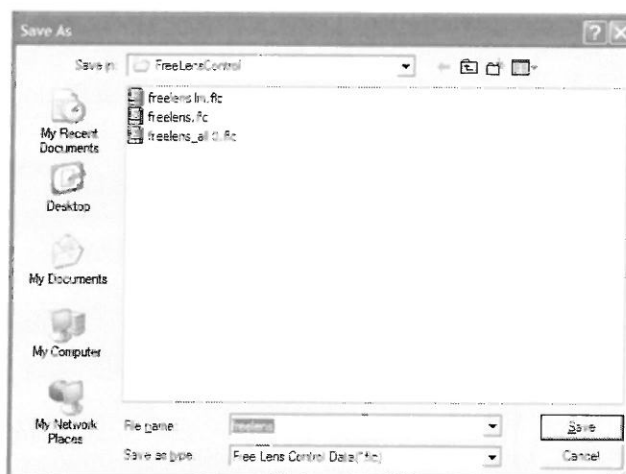

Fig. 5.73 FLC Data Saving
4. To save, click **Save** (Fig. 4.59-⑨) and display the Save As dialog (Fig. 5.73).